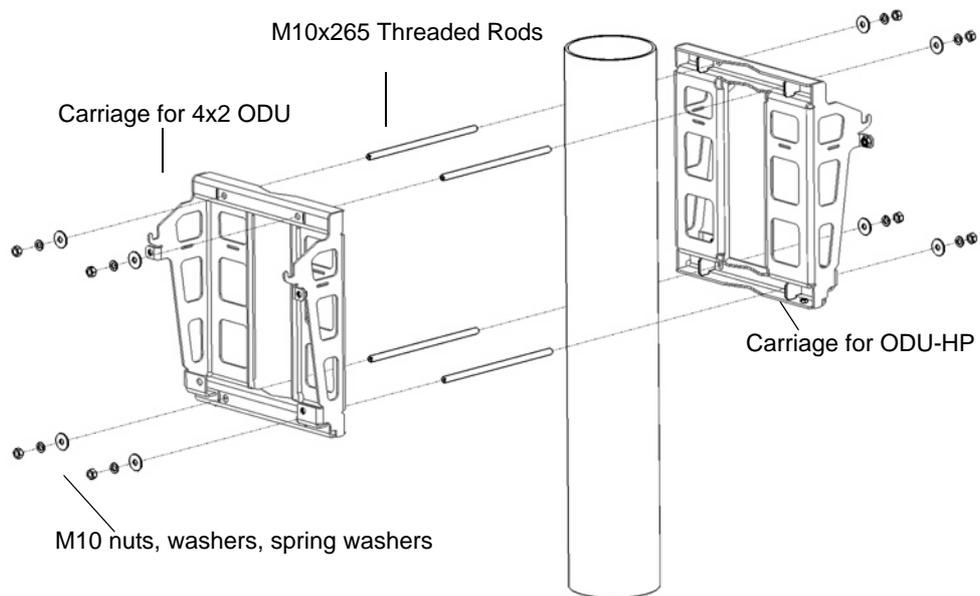

Figure 2-8: Mounting Two Carriages on the Pole
- 3 Thread the 4 M10x265 threaded rods through one carriage and tighten using the supplied washers, spring washers and nuts. Lean the carriage vertically on the pole and thread the rods through the second carriage (Figure 2-8).